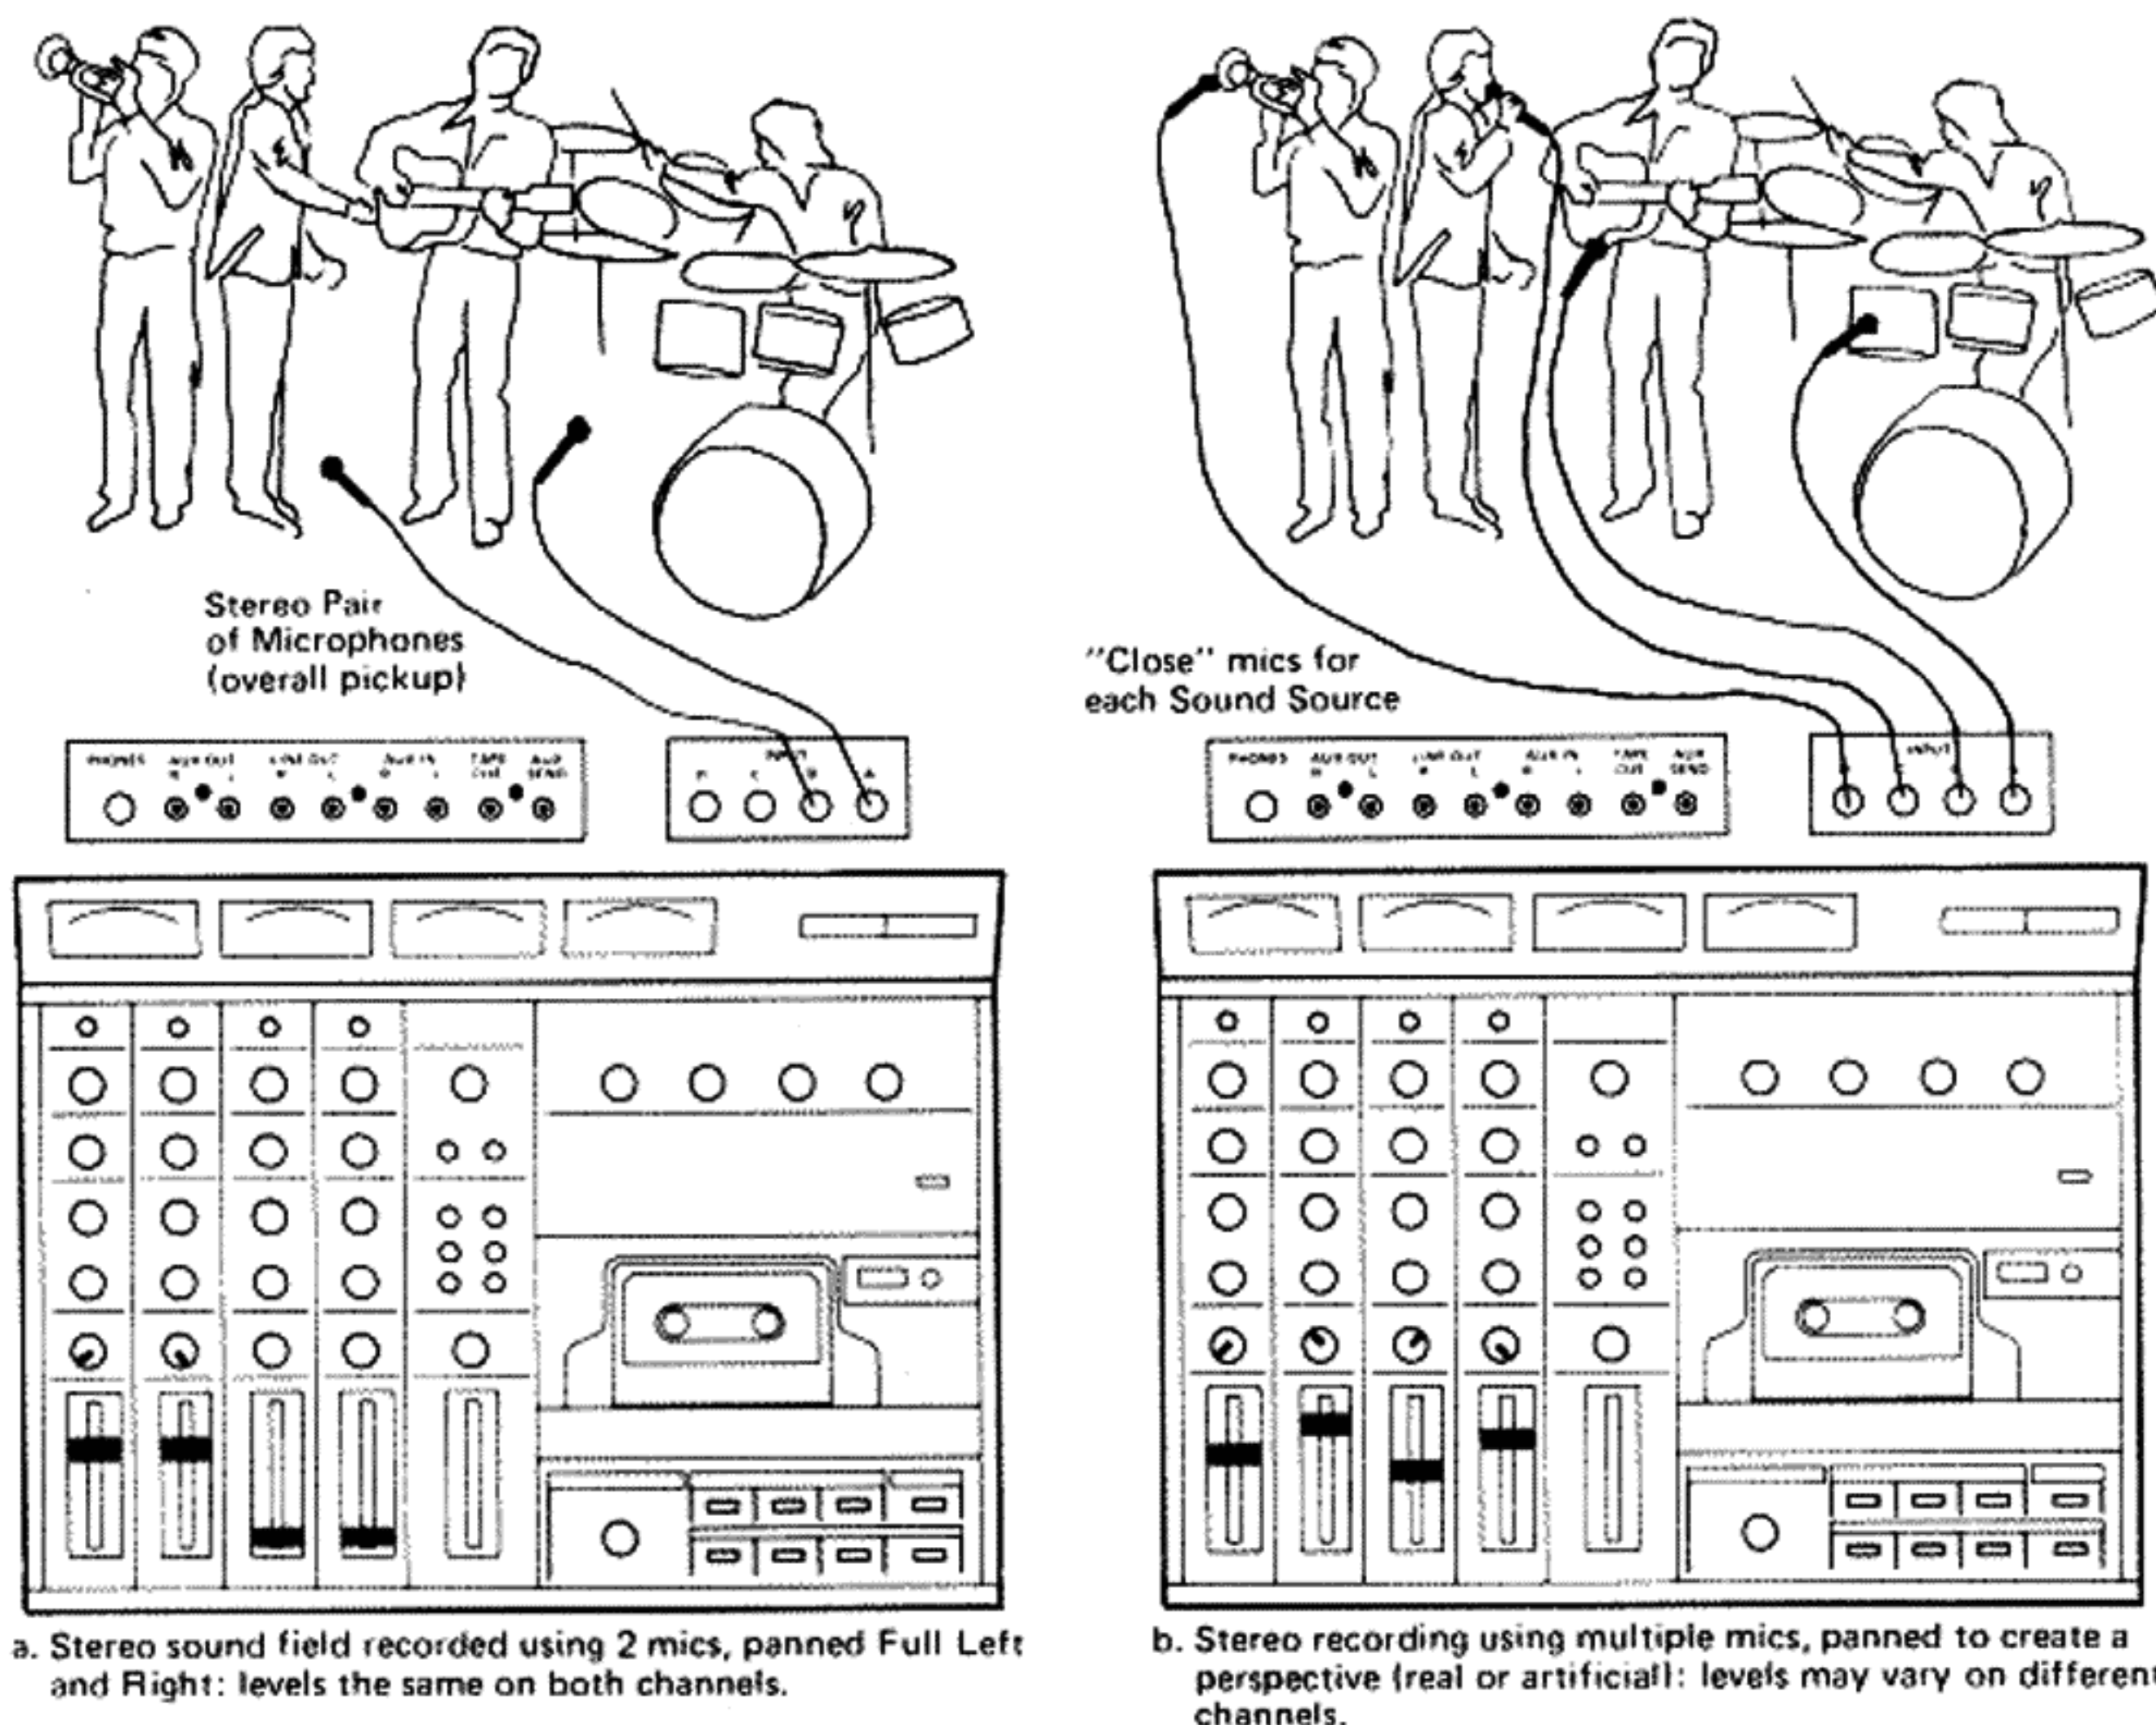

Figure 14 - Pictorial Representation of Stereo Recording
**NOTES (Refer to Figures 14 & 15):**